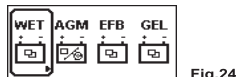

Fig.24
2. Press and the screen will show as Fig.24 below: